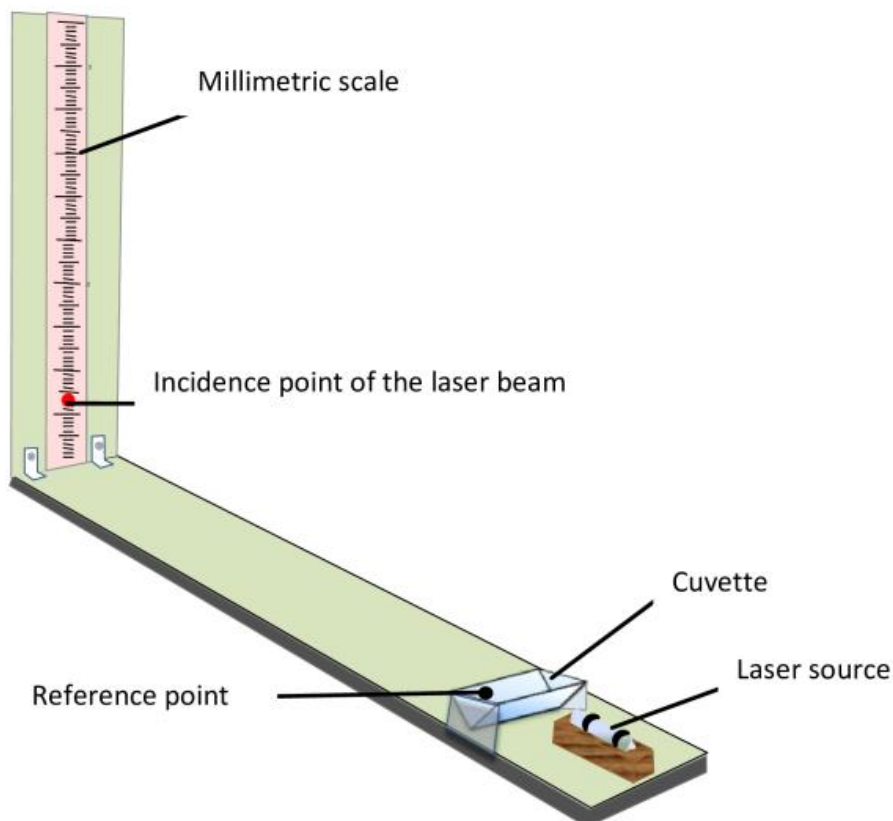

Figure 8
**A. Instructions for assembling the refractometer according to Figure 8.**
A.1. Turn on the laser source (ID# 13) and move it side to side on the main wooden base until the beam falls on the center of the millimetric scale, as show in **Figure 8**.
- The cuvette must be placed at the same position for all the measurements. For such purpose, a reference point is drawn on one of the cuvette's side (**Figure 8**).